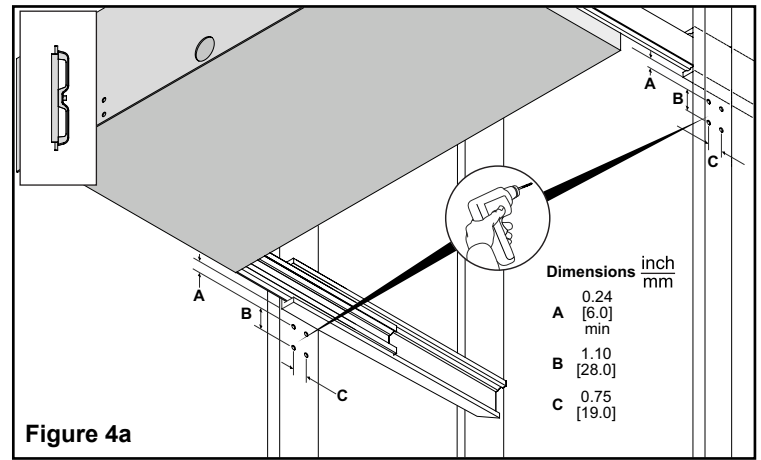
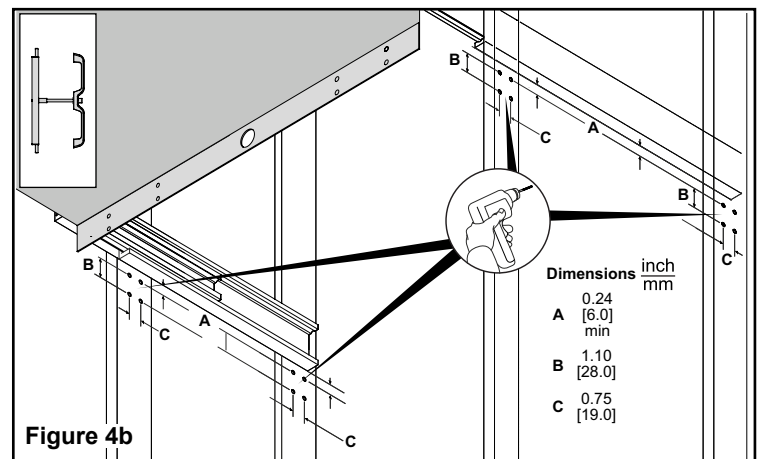

Figure 4a
Figure 4b
1. Drill fixing holes for the lock blocks. See **Figure 4a** (lock-in only) or **Figure 4b** (additional lock-out). The center of the lock block should line up with the centerline of the fixing holes for the handle and mechanism. The center of the rod = center of the lock block hole.